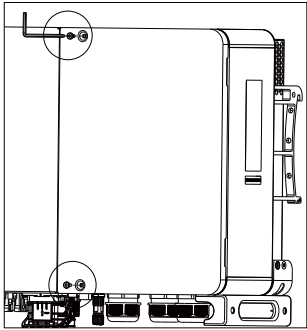

Fig 6.9
1. Open the right cover plate. The position of the cover is shown in Fig 6.9;
3. Connect the main power cables according to the label. Fig 6.9 shows the position of the label and the AC terminals.